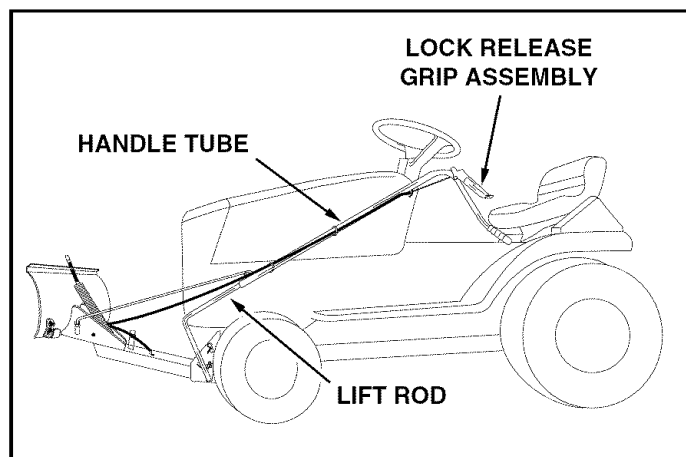

FIGURE 20
- Raise the blade to transport position. To unlock the blade, push the lock release grip down against the handle tube. To pivot the blade, keep the grip depressed and push forward or pull back on the handle tube, sliding it along the lift rod. Release the grip to lock the blade when it is in either the right hand, the left hand or the straight ahead position. See figure 20.